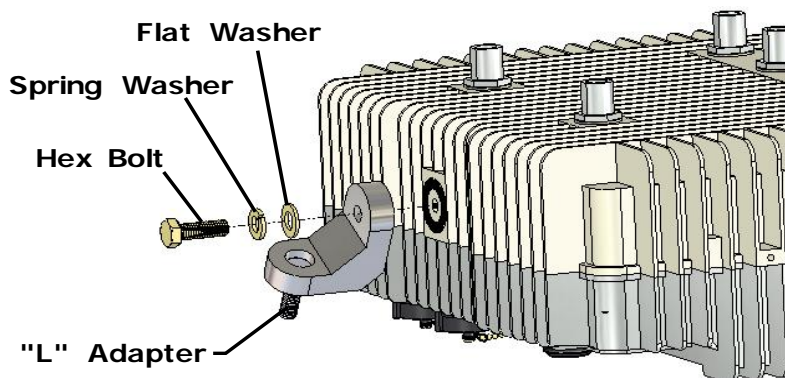

Figure 1: Mount 'L' Assembly
- Attach the 'L' adaptor to the NetPoint Pro 6x2.4 using an M8 x25 hex bolt [E], a spring washer [G], and a flat washer [F], as illustrated in Figure 1.